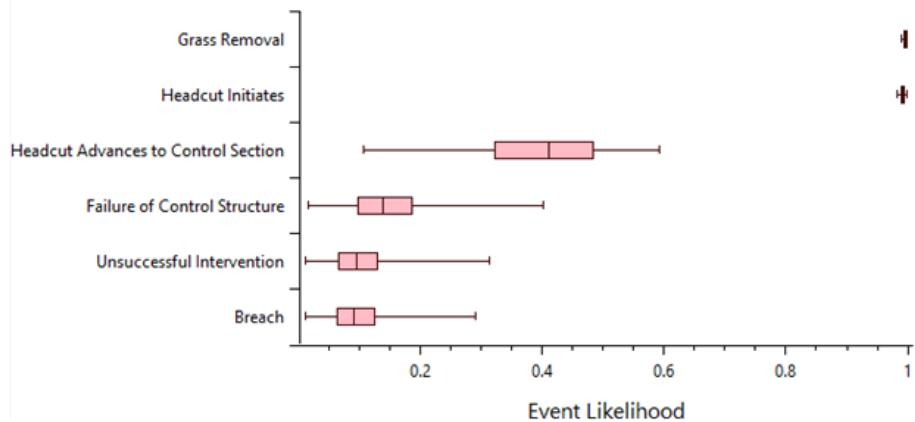

Figure 8.11: Event tree diagnostics event likelihood plot option.
- **Event Likelihood:** Displays a box-and-whisker plot of the likelihood for each node occurring at the selected hazard level (Figure 8.11).